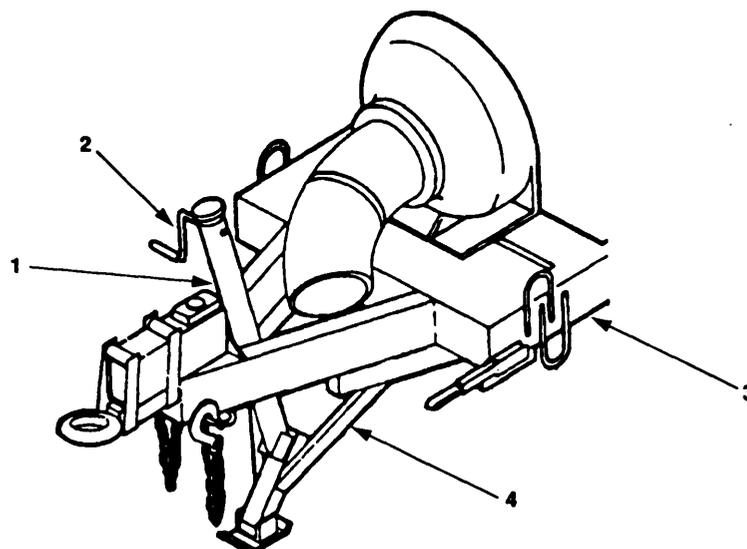

Figure 2-15. Front Trippod.
- d. If trailer is equipped with front tripod, refer to figure 2-15 and perform the following:
- (1) Use turncrank (2) of tripod jack (1) to lower tripod (4).
- (2) Raise trailer (Figure 2-15, 3) to position where lunette (5) can be released from pintle hook (Figure 2-13, 8) on tow vehicle (7).
- e. Disconnect safety chains (3) and breakaway chain (4) from tow vehicle (7).